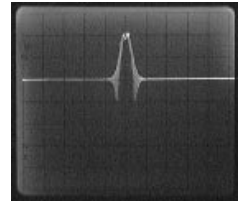

fig. 24
**Fine Alignment:** Connect BNC-T-connector again as in the beginning of the IF alignment. Set attenuator of tracking generator module to -20dB, scanwidth to 0.5 MHz/div. If necessary, re-adjust center frequency (adjust 500MHz spectral line to screen center). "Zero" point is now visible to the right or to the left of screen center (amplitude maximum) (**fig. 24**).